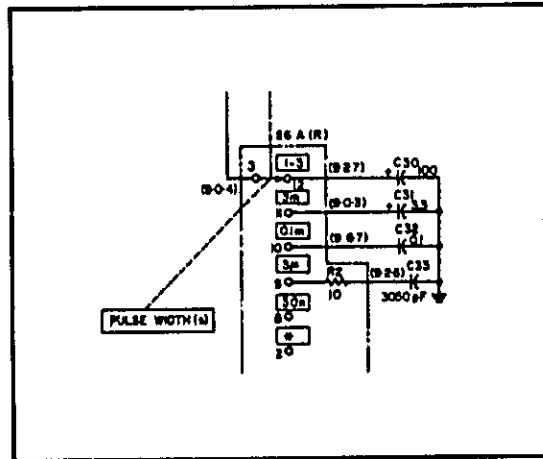

Figure C-4. S6 A (R) Terminal Connections
Change terminal connections for wafer S6 A (R) of the Pulse Width Switch as shown in Figure C-4.